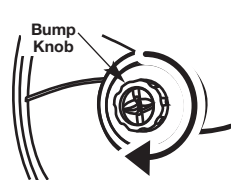

Fig. 12
1. Rotate the bump knob clockwise until all line is inside the cutting head (Fig. 12).
3. Hold the spool cover, turn the bump knob clockwise to wind the line around the spool until about 5 in. (12.7 cm) is protruding from each side of the cutting head. (Fig. 12)